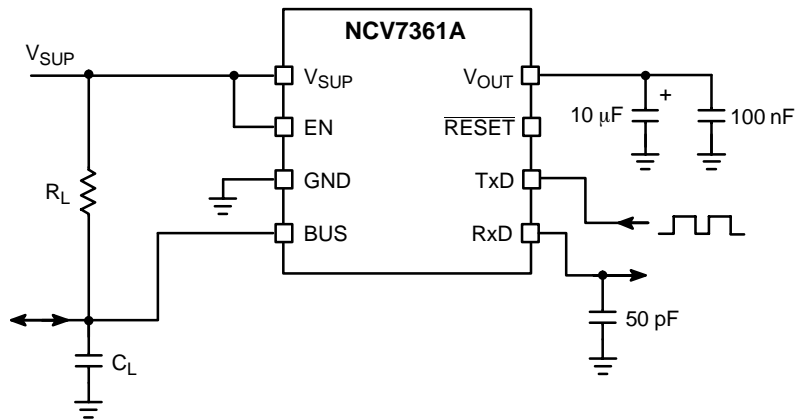

Figure 5. Test Circuit for Delay Time, Slope Time, and Duty Cycle
11. See Figures 5, 6, 7, 8, and 9 for test setup.